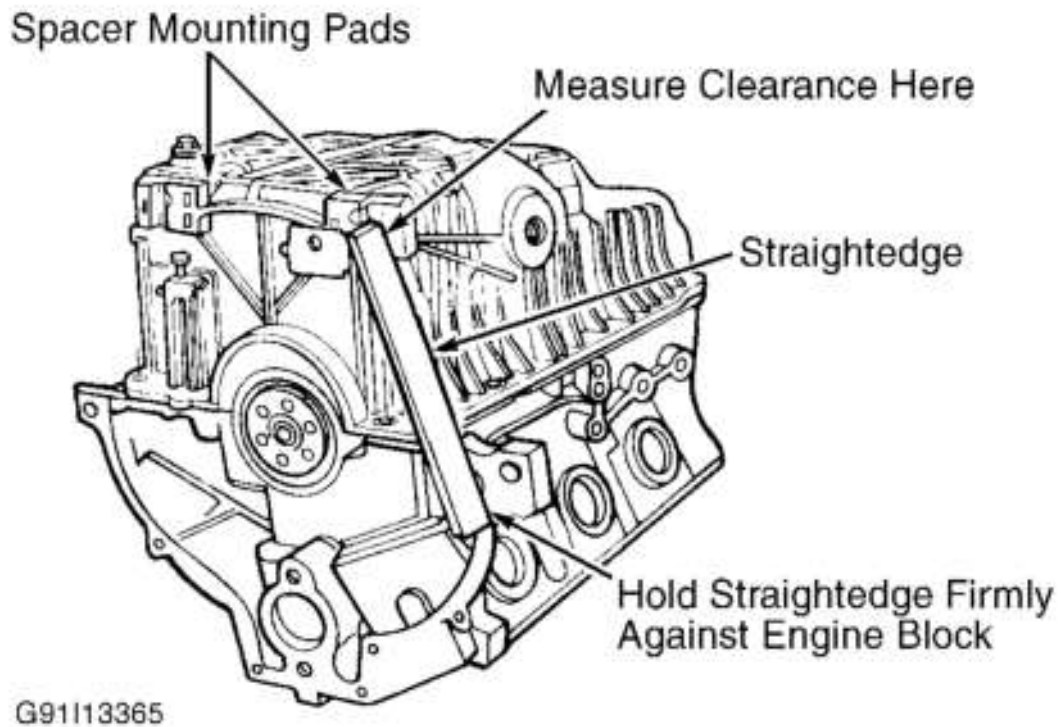

Fig. 11: Measuring Oil Pan Spacer Clearance
2. Install oil pan retaining bolts/nuts and tighten to specification. See **TORQUE SPECIFICATIONS**. Position a straightedge along rear of engine block so it extends over one of the oil pan spacer mounting pads. See **Fig. 11**.